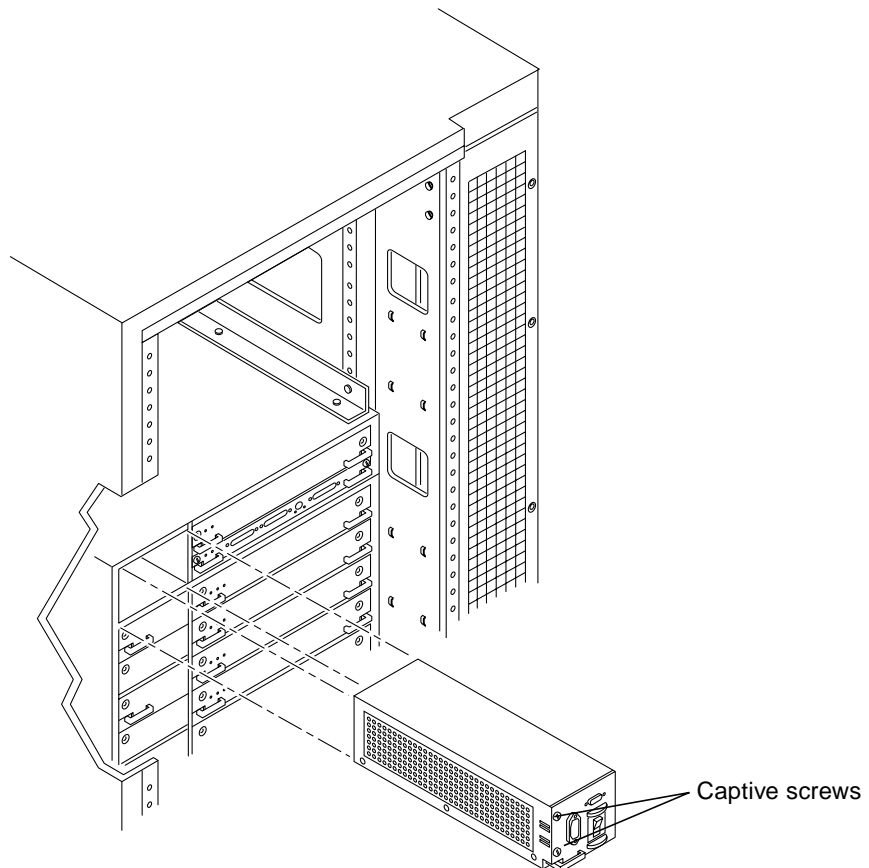

FIGURE E-13 Removing the 200/240V Fan Tray Assembly
2. Locate the fan tray assembly (FIGURE E-13) at the back of the card cage.
Viewed from the rear of the system, the fan tray is on the left side of the cabinet (FIGURE E-13).